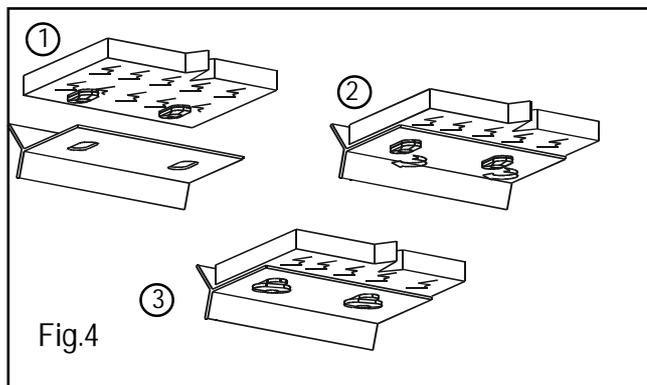

Fig.4
- turn the stops caps to 90 degrees till they click as shown in the figure (see Fig.4).